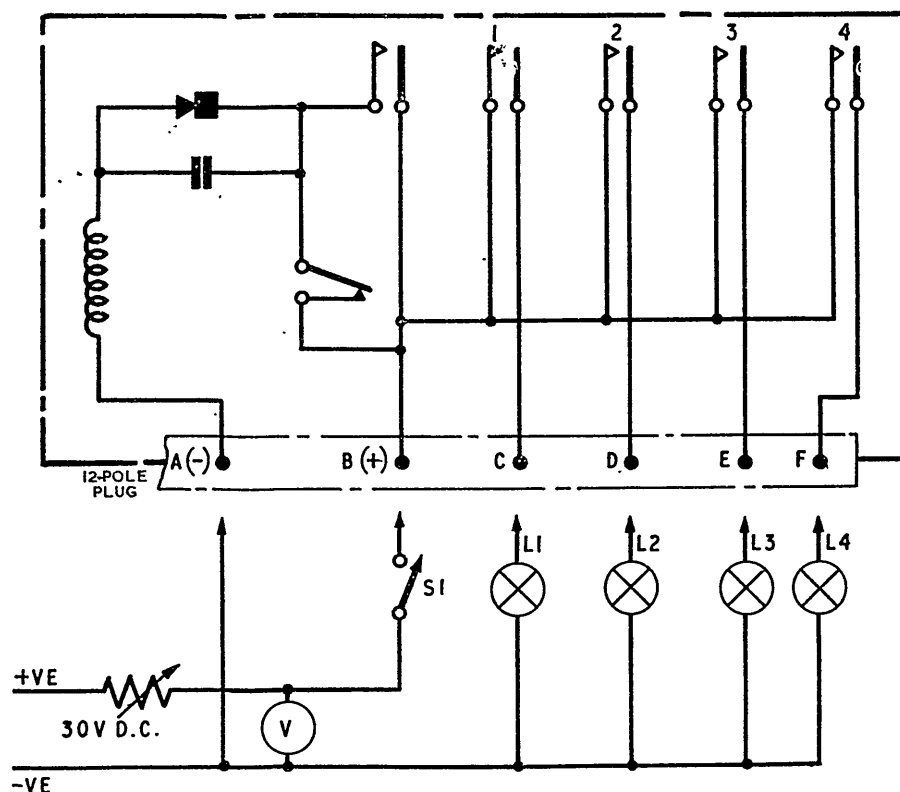

Fig. 1. Switch, Type D8151, circuit diagram and test circuit
1. This time delay switch has four pairs of circuit contacts, the circuit diagram (fig. 1) shows the switch internal wiring and the associated test circuit. The total motor run and circuit contact timing is detailed in para. 3.